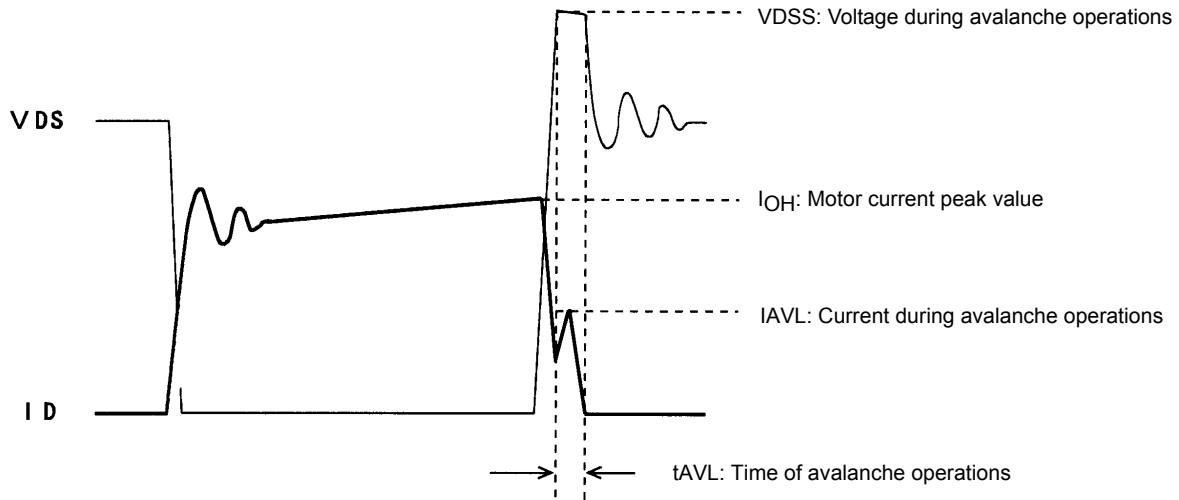

Figure 1 Output Current,  $I_D$ , and Voltage,  $V_{DS}$ , Waveforms 1 of the STK672-6\*\* Series when Driving a 2-Phase Motor with Constant Current Chopping
When driving a 2-phase Stepper motor with constant current chopping using an STK672-6\*\* Series hybrid IC, the waveforms shown in Figure 1 below result for the output current,  $I_D$ , and voltage,  $V_{DS}$ .
Although the waveforms during avalanche mode are given in Figure 1, sometimes an avalanche does not result during actual operations.
- Increases in  $V_{DS}$ ,  $t_{AVL}$ , and  $I_{AVL}$  in Figure 1 due to an increase in the supply voltage from 24V to 36V.
If the factors above are negligible, the waveforms shown in Figure 1 become waveforms without avalanche as shown in Figure 2.